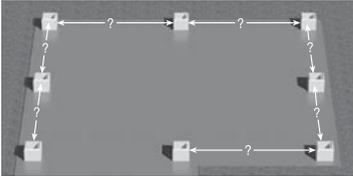

FIGURE 1B
**B)** Measure the distance between each of the NEWEL POST BOTTOM SECTIONS (FIG. 1B), and cut respective lengths of BALUSTER RAILING to be installed between the NEWEL POST BOTTOM SECTIONS. Add a centered saw kerf to the bottom of the newel post for water drainage.